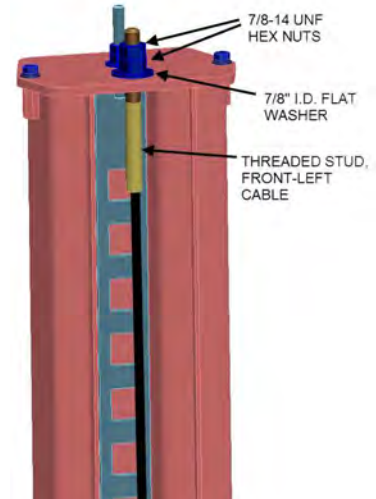

Figure 31
- Anchor threaded end of the front left cable into the top plate of the front left tower (**Fig.31**). Use one 7/8" ID flat washer and two 7/8-14 UNF hex nuts (see hardware kit).
- Anchor threaded end of the front right cable into the top plate of the front right tower. Use one 7/8" ID flat washer and two 7/8-14 UNF hex nuts (see hardware kit). Refer to **Fig.31**.